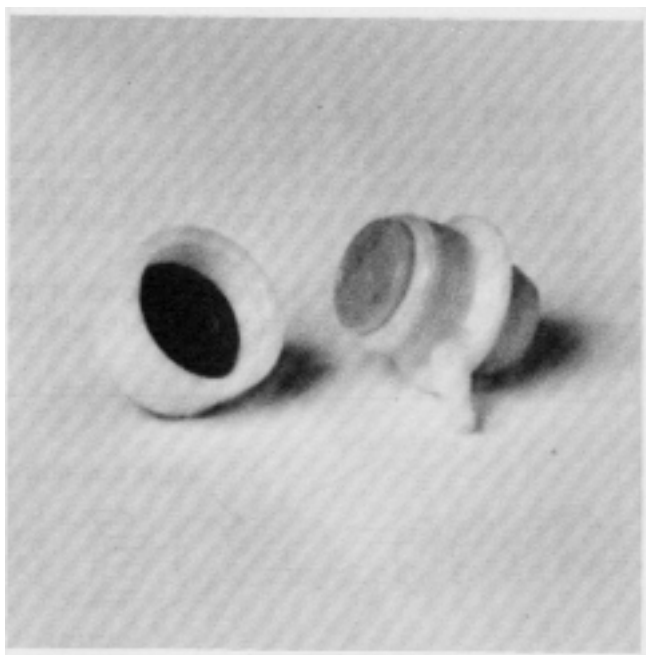

Figure 40
2. Unscrew the rubber cap/button from the pump. See Fig. 40.